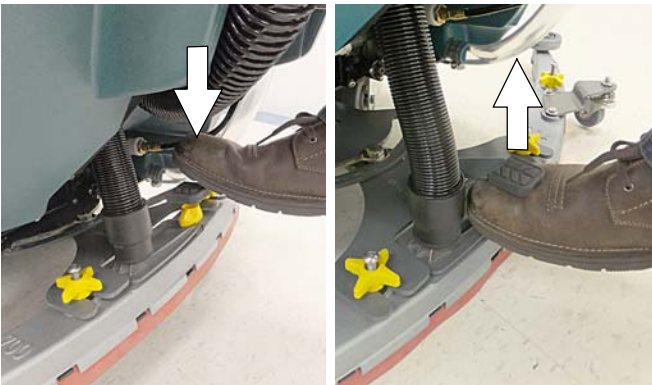

FIG. 37
- Lower the squeegee assembly to floor by stepping on foot pedal (Figure 37). To raise squeegee assembly, place foot under foot pedal and lift. The vacuum motor will automatically start when squeegee is lowered to floor.